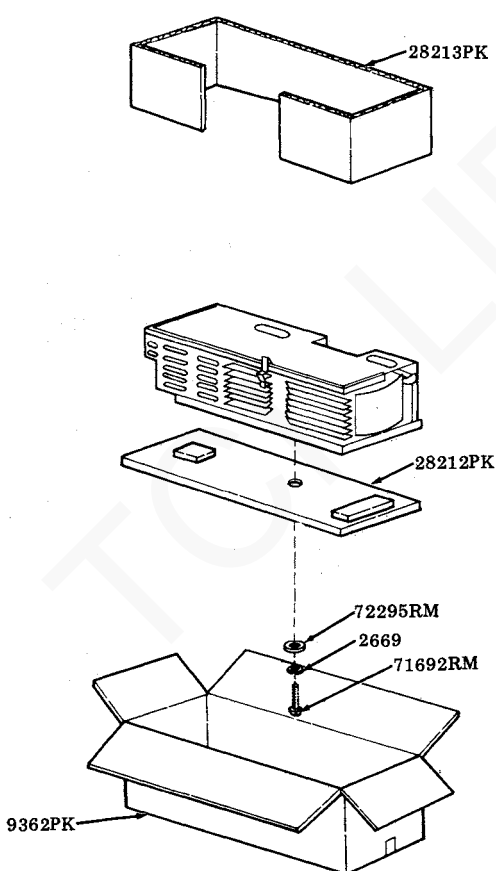

Fig. 54
- Step 1. Assemble pallet No. 28212PK to bottom of power supply with one 71692RM screw, one 72295RM flat washer, and one 2669 lockwasher, as illustrated in Fig. 54.
- Step 3. Place palletized unit in carton. Form a 28213PK detail and place in carton as illustrated in Fig. 54.